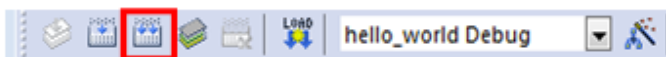

Figure 10. Build the demo
2. To build the demo project, select **Rebuild**, highlighted in red in Figure 10.